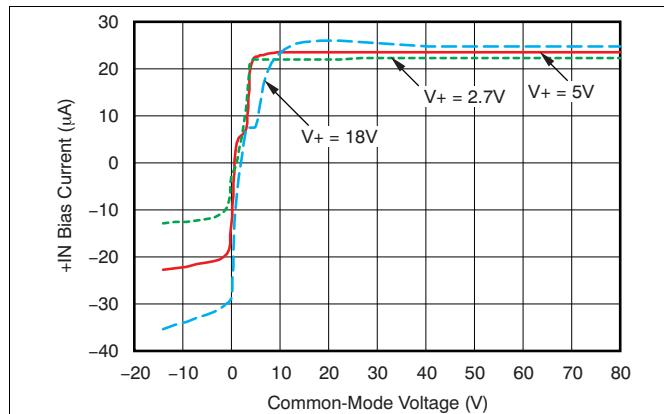

Figure 7. INA283-Q1 +IN BIAS Current vs Common-Mode Voltage
(1) RTI = referred-to-input.
(2) See typical characteristic graph Figure 7.
(3) The average of the voltage on pins REF1 and REF2 must be between V_{GND} and the lesser of ($V_{\text{GND}} + 9 \text{ V}$) and $V+$.